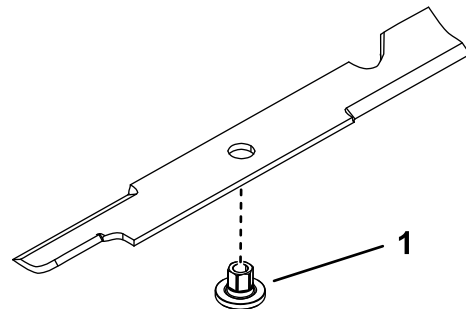

Figure 79
Note: If the blade is not balanced, file some metal off the end of the sail area only (Figure 79).
1. Install the bushing through the blade with the bushing flange on the bottom (grass) side of the blade (Figure 79).